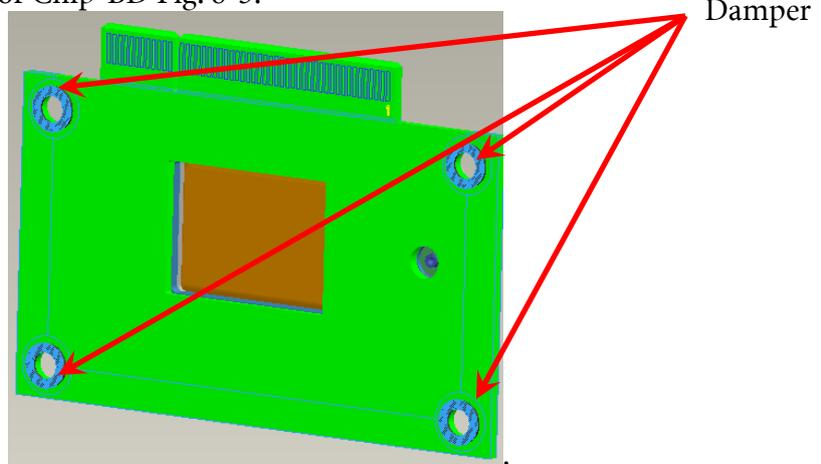

Fig. 8-5.
8.4 Place Damper on the surface of Chip-BD Fig. 8-5.